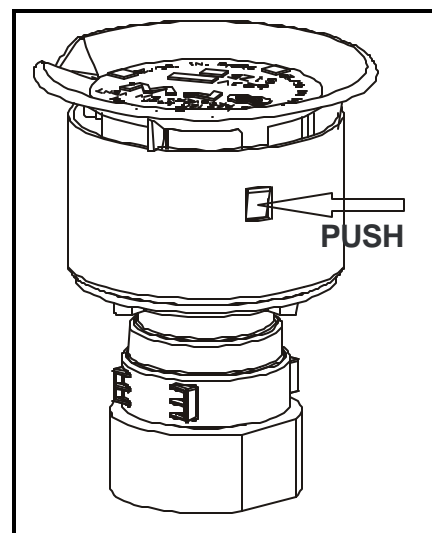

Figure 2
1. Remove vent top by depressing tabs as indicated in Fig. 2, and lift top upward. Screen will slip up and out of valve.